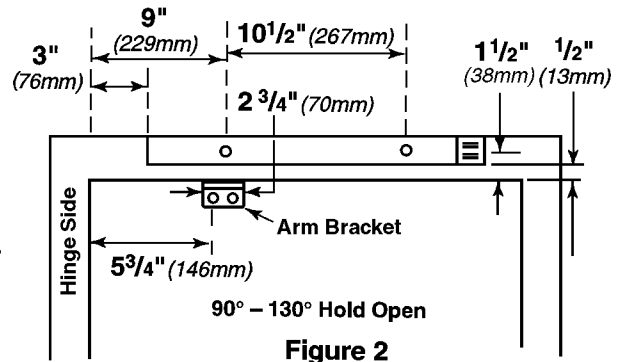

Figure 2
5. Place unit against frame (see Fig. 2 & Fig. 3).
9. Mark the bracket hole locations on the door (see Fig. 2).